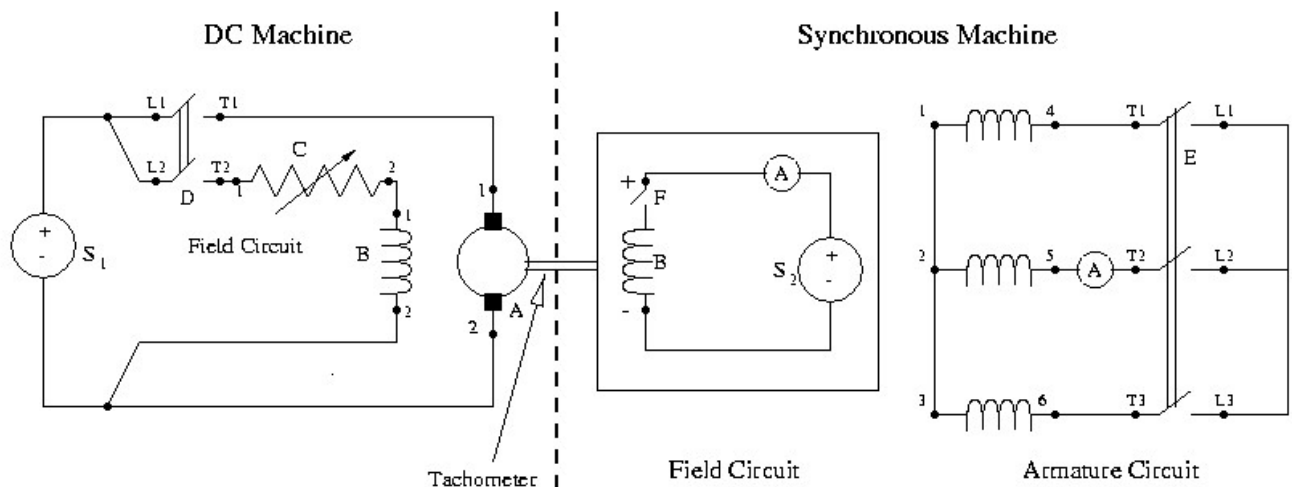

Figure 2
- 1) Create a 3-phase short circuit across the armature terminals of the synchronous generator as shown in Figure 2.